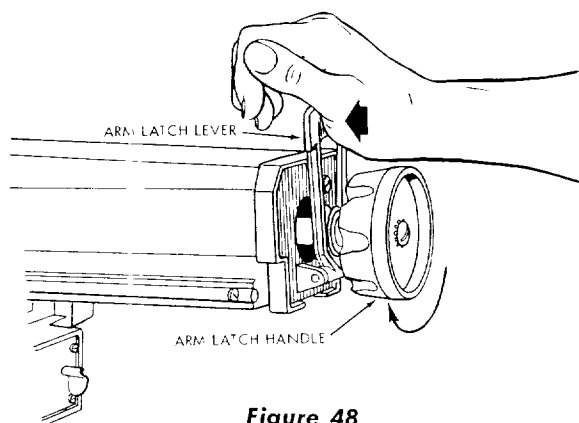

Figure 48
- (2) Move the radial arm into the desired index position (do not bump or jar it) and push on the arm latch lever (1, figure 46) solidly with the palm of the hand. (See figure 48). This is very important as it insures proper seating of the arm lock pin in the arm latch, thus always returning the arm to the correct position.
Experienced operators of precision equipment, such as this Craftsman Radial Saw, normally acquire the habit of indexing the machine in one direction only, whenever a new setting is made in preparation for a different operation. For example: when moving the radial arm to a new position, it is advisable to move it slightly past the desired index position, then return it slowly and carefully to latch and lock it. Figure 48 shows the radial arm being securely indexed by "tapping" it with the palm of the hand. Swivel indexing and bevel indexing can be accomplished in a similar manner. This indexing technique tends to neutralize any stresses imposed upon saw components and contributes to the high degree of accuracy the saw is capable of producing when operated expertly.